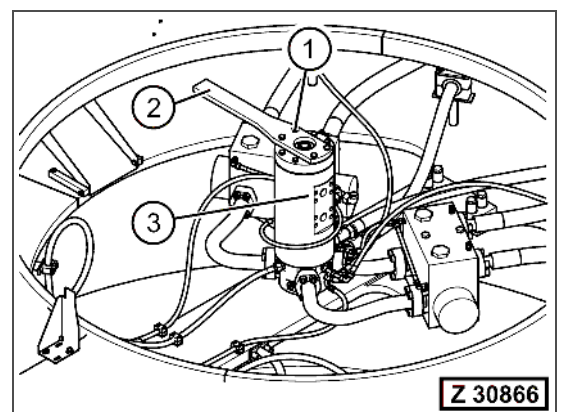

Fig. 4-130
7. Assemble the torque support lever (Fig. 4-130, Pos. 2) to the rotary joint (Fig. 4-130, Pos. 3). Note Fig. 4-131 for assembly.
Insert new mounting bolts (Fig. 4-130, Pos. 1) of grade 10.9. Apply MPG (or roller bearing grease, or grease from the CLS system) and tighten the bolts to the specified tightening torque.
Tightening torque for torque support lever mounting bolts (Fig. 4-130, Pos. 1): 265 Nm.